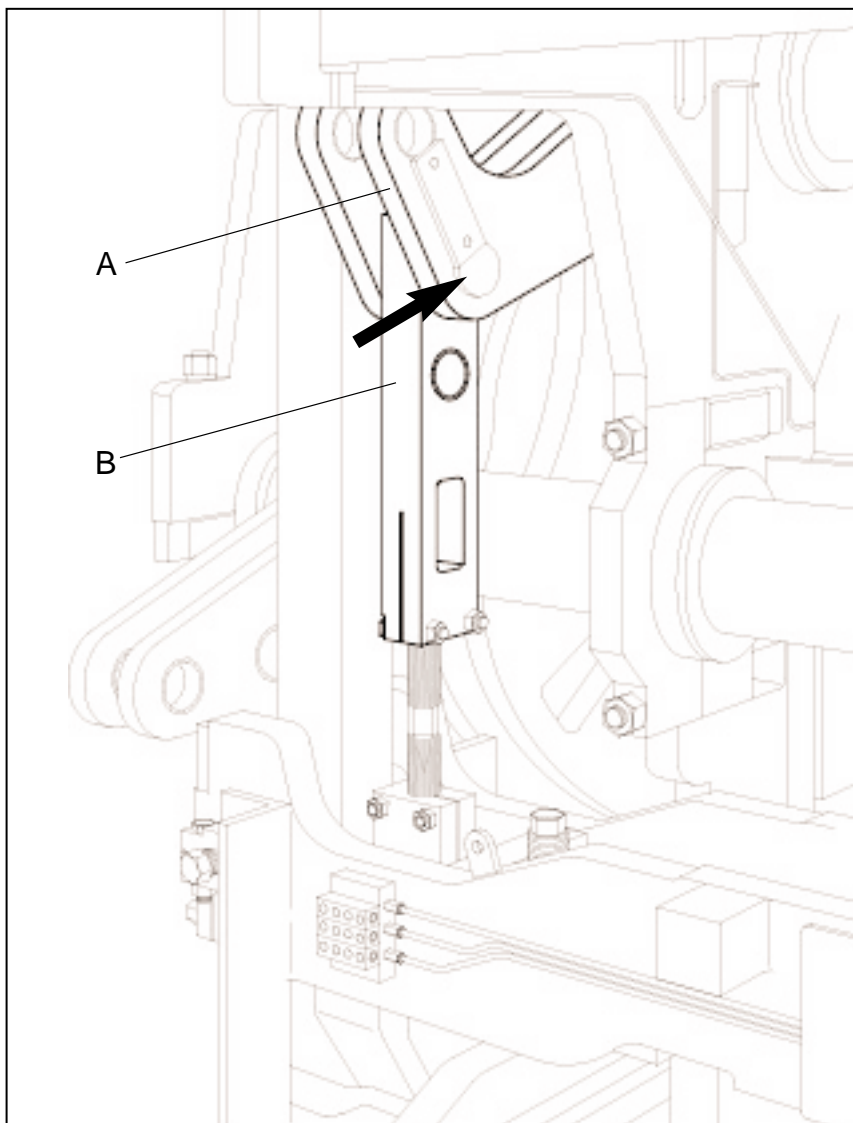

Figure 4.41 STRIPPER HEAD SHAFT AND LINKS.
- b. Stripper head shaft (A) - position pins in inside holes (short stroke) (see figure 4.41).
- c. Stripper head links (B) - position pins in top holes. Adjust links to obtain approximately **105mm [4 1/8"]** between link ends (see figure 4.41).